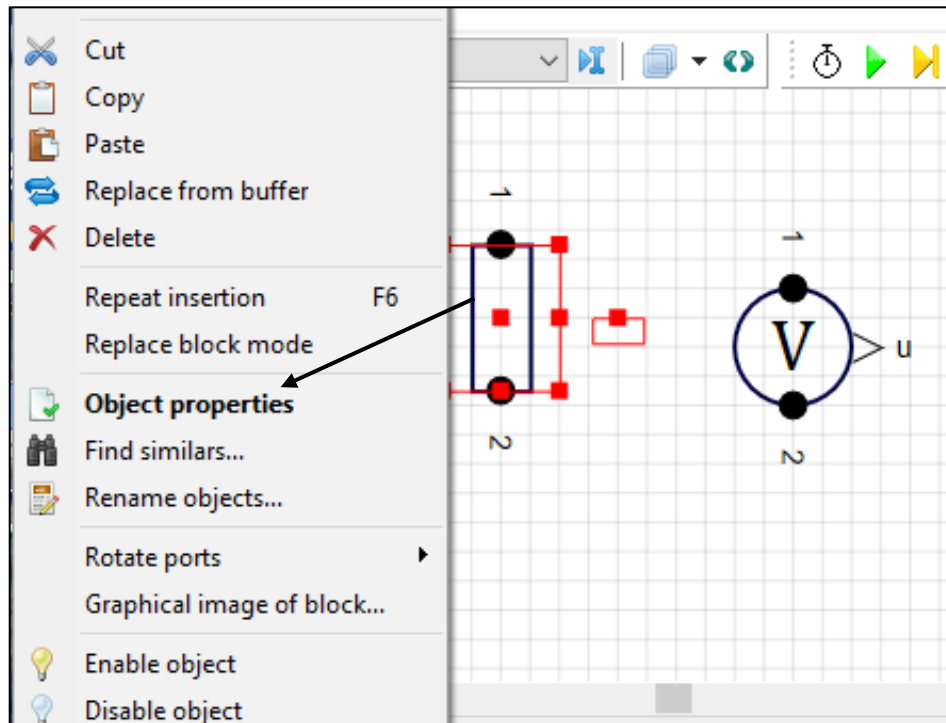

Figure 1.11
5. Block properties are set via the **Properties** window, which is either selected in the context menu for the selected block, or opens by double-clicking on the selected block. Select the **RLC-circuit** block, right-click and select **Object Properties** from the context menu that appears (Figure 1.11).